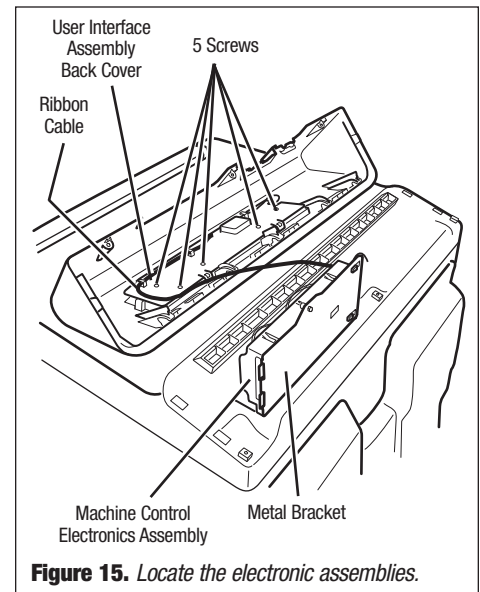

Figure 15. Locate the electronic assemblies.
There are two electronic assemblies: the machine control electronics and the user interface electronics. See figures 15 and 16.
4. Remove the one screw holding the machine control assembly to the metal bracket. See figure 15.
3. Remove the wire connection from the machine control electronics. See figure 15, page 8.
5. The user interface assembly is held to the console insert panel by five screws. Once the screws are removed, the user interface assembly can be removed from the plastic housing. See figure 15, page 8.